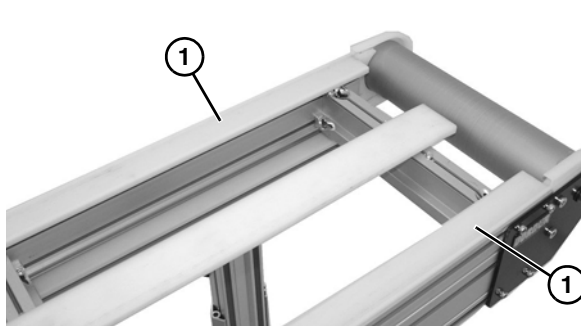

Figure 18
1. Remove upper wear strips (Figure 18, item 1) from top of frame assembly.